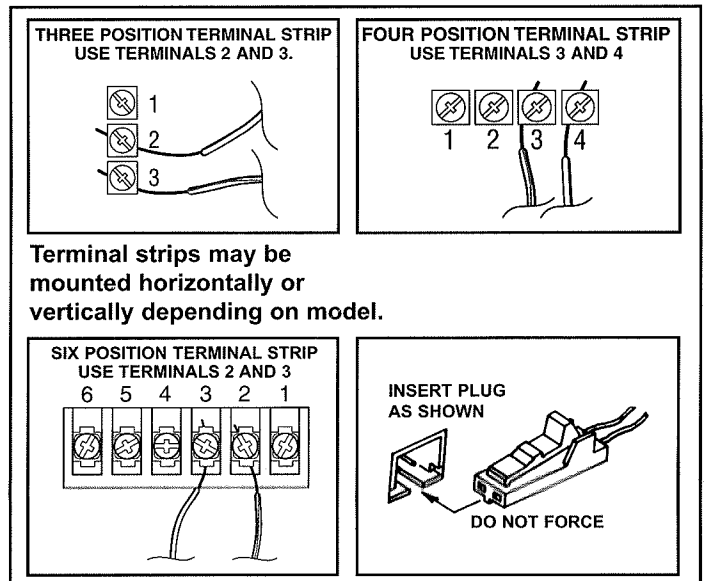

FIG. 7 Terminal attachments at Power Head
- > STB's are connected to power head as indicated. (Fig. 7).